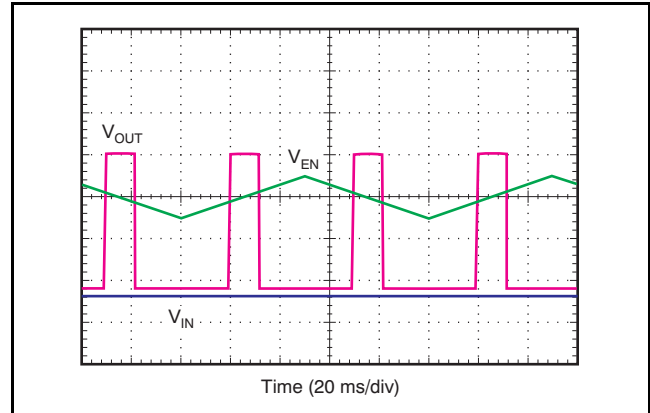

Figure 19. Enable Pin Positive/Negative Threshold
The TPS7A3401 provides a dual polarity enable pin (EN) that turns on the regulator when $|V_{EN}| > 2.0\text{ V}$, whether the voltage is positive or negative, as shown in Figure 19.